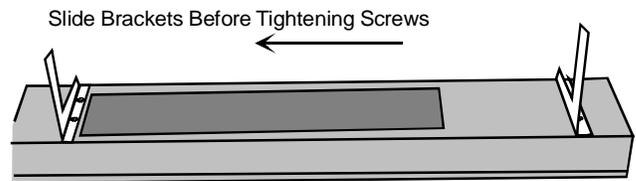

Figure 2
- Mount the two support brackets to the bottom of the hydronic top (Figure 2) with four (4) 3/8-inch #8 supplied screws.